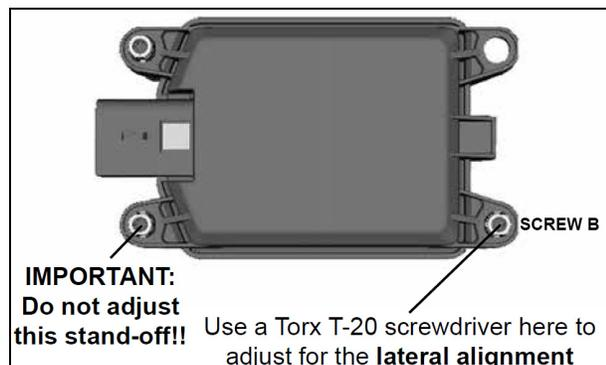

FIG.17
23. Screw **B** serves as horizontal adjustment (lateral) screw (fig.17 & 18). Use a Torx T-20 screwdriver to turn by hand the lower-right adjustment screw (screw B). Turn screw **B** clockwise or counterclockwise depending on direction needed in order to have the same measurement on both sides preferably.